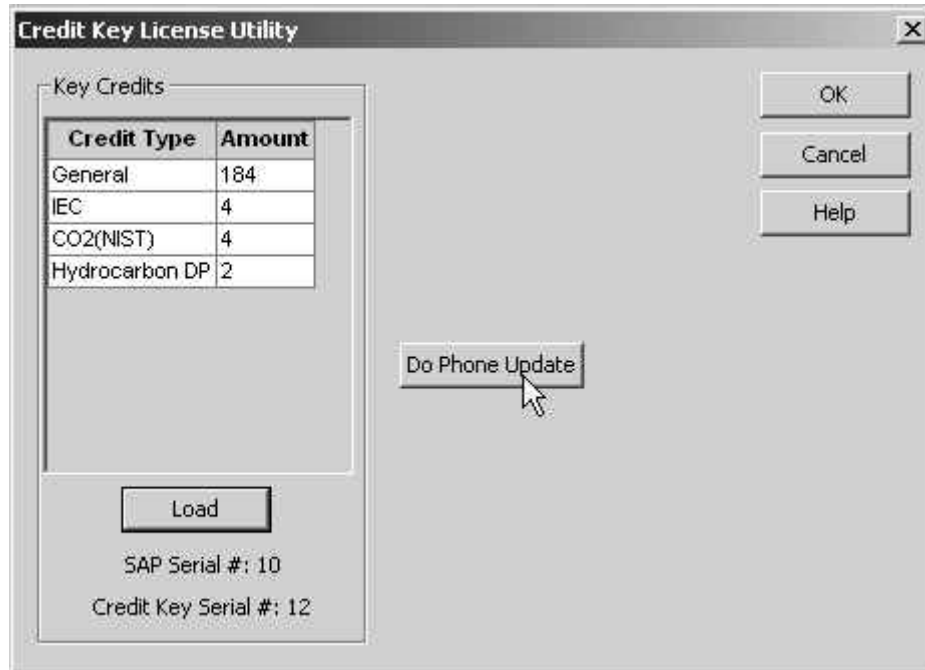

Figure 76 Credit Key Telephone Update
4. Select **Do Phone Update** (see Figure 76).